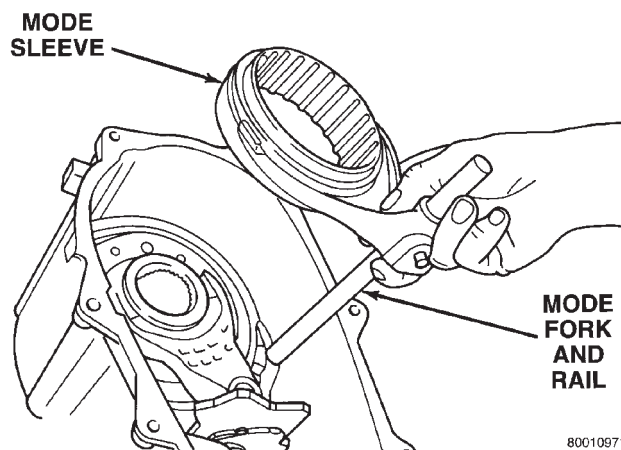

Fig. 35 Mode Fork And Sleeve Removal
- (6) Pull mainshaft assembly out of input gear, mode sleeve and case.
- (7) Remove mode fork, mode sleeve, and shift rail as assembly (Fig. 35). Note which way sleeve fits in fork (short side of sleeve goes to front).